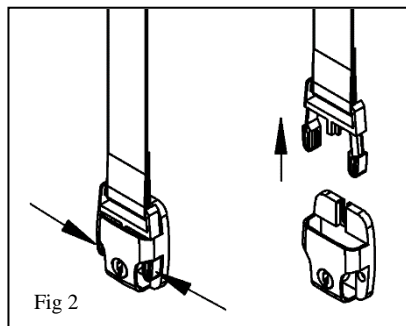

Fig 2
3. Remove the strap by pinching the two barbs of the strap as indicated (fig 2).